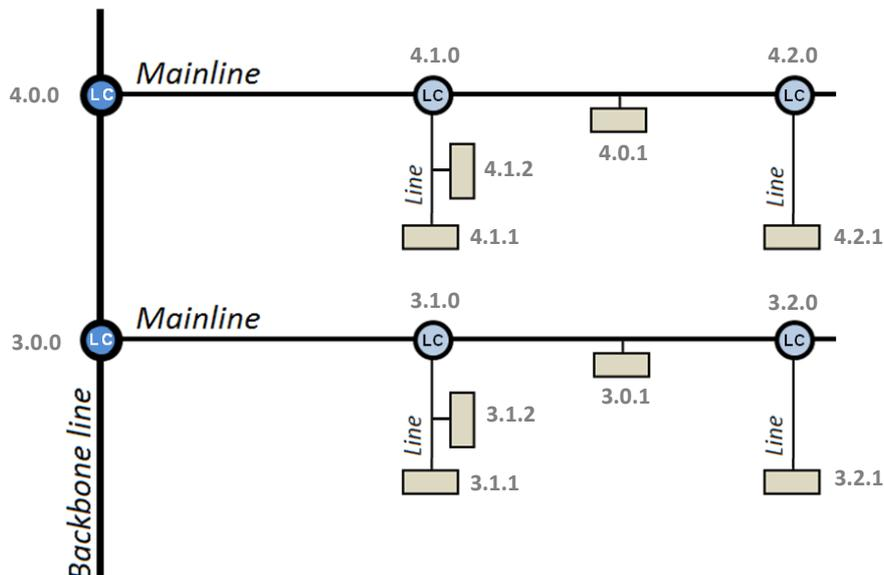

Figure 3 Line Coupling Scenario
Another scenario is shown in Figure 3.
**Example:** in the example shown in Figure 3, if the line coupler with address 3.2.0 reads a telegram on the mainline destined to the device with physical address 3.1.2, it will compare both addresses and conclude that 3.1.2 is not an address belonging to its line and will therefore not transmit it to its secondary line.
**Note:** the device that sends a telegram needs to have been assigned a physical address that really corresponds to its line. In Figure 3, if the device with address 3.1.1 (let it be a KNX programmer, for instance) changes its address to 7.7.255, it will not be able to send telegrams to, for example, the device with address 4.0.1.